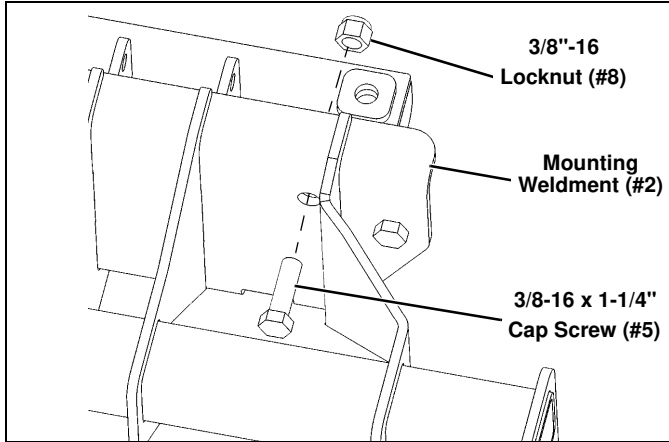

Figure 4
5. In the inner driver side front hole, insert a 3/8"-16 x 1-1/4" Cap Screw (#5) through the Mounting Weldment (#2), and vehicle frame. Secure with a 3/8"-16 Locknut (#8). (See Figure 4.)